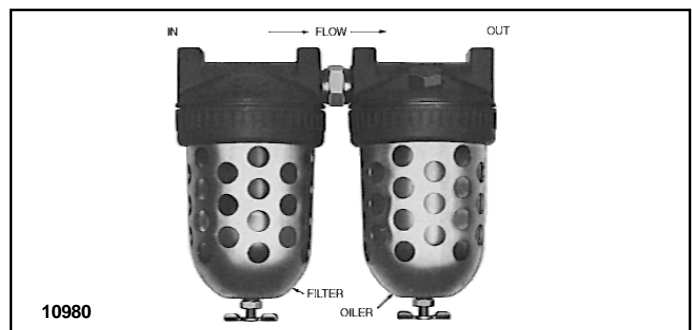

Figure 2-3. Air Filter and Lubricator Unit.
c. A filter and lubricator unit (Figure 2-3) must be installed between air source and air hose leading to hoist. These keep air flowing to hoist free of dirt and add lubricant to air so internal parts of motor are constantly lubricated. Use Air Hoist Motor Oil or good grade IOW machine oil (approximately viscosity 150 SSU at 100°F.) Multi-viscosity, detergent type engine oil is not recommended. Feed one drop of oil for every 50 to 75 cubic feet of air going through the air motor.